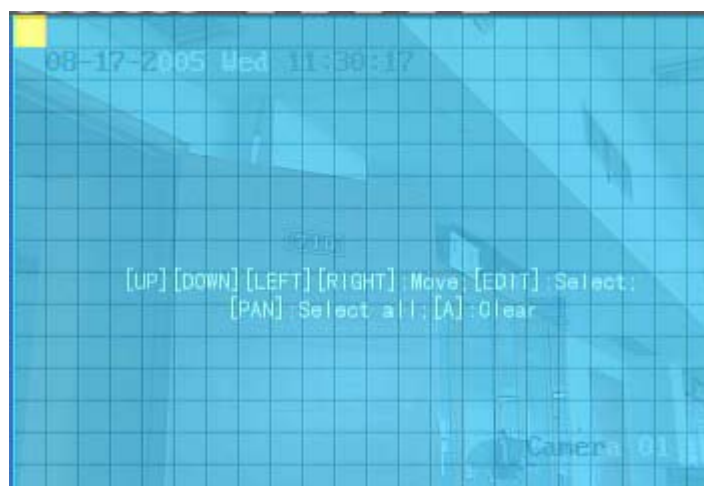

Fig 5.17 Motion area setup
Step 4: Motion area setup: You must define motion areas so that DVR will respond when there is motion detected in those areas. Move “Active Frame” to “Area” button on the right side of the sensitivity list box, press the **【ENTER】** key, you will enter into the “Motion Area Setup” interface shown as fig 5.17:.